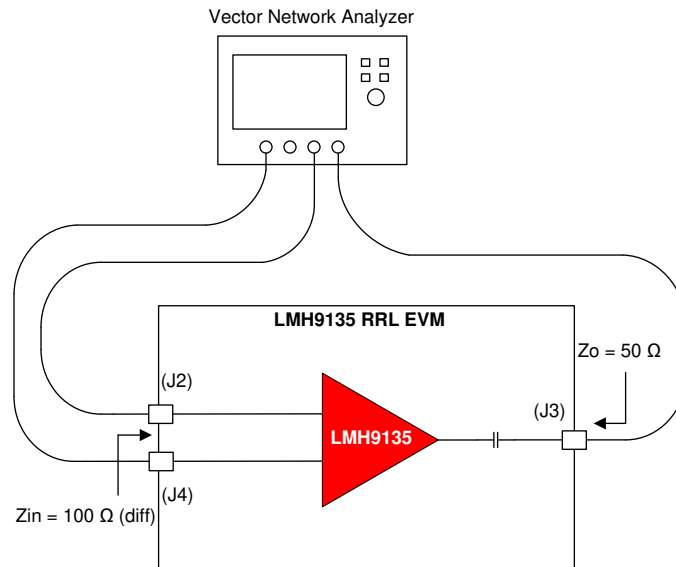

Figure 3-2. S-Parameter Test Setup
1. S-parameter measurement is typically done using a Vector Network Analyzer (VNA), as Figure 3-2 shows. For measuring the LMH9135 EVM, a 4-port VNA is recommended which can generate and receive truly differential signals at the input and output ports.